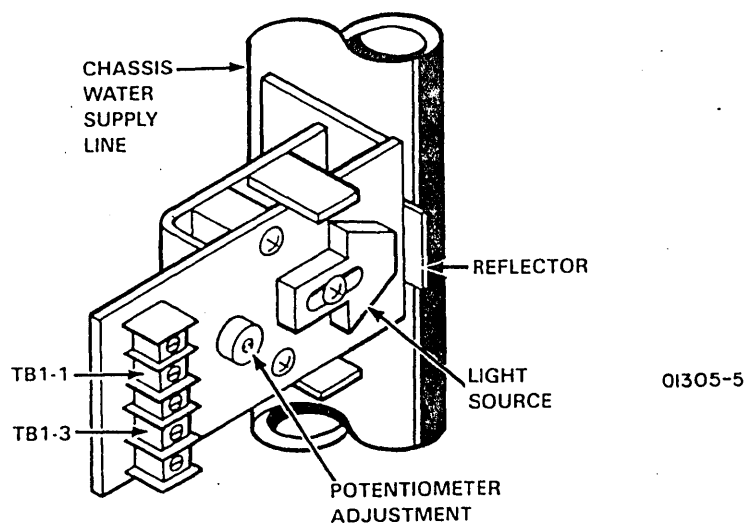

Figure 3-48. IOU Low-Temperature Sensor Assembly
- ___ b. Place meter negative (-) lead on low-temperature sensor TB1-1 and positive lead (+) on TB1-3 (figure 3-48).